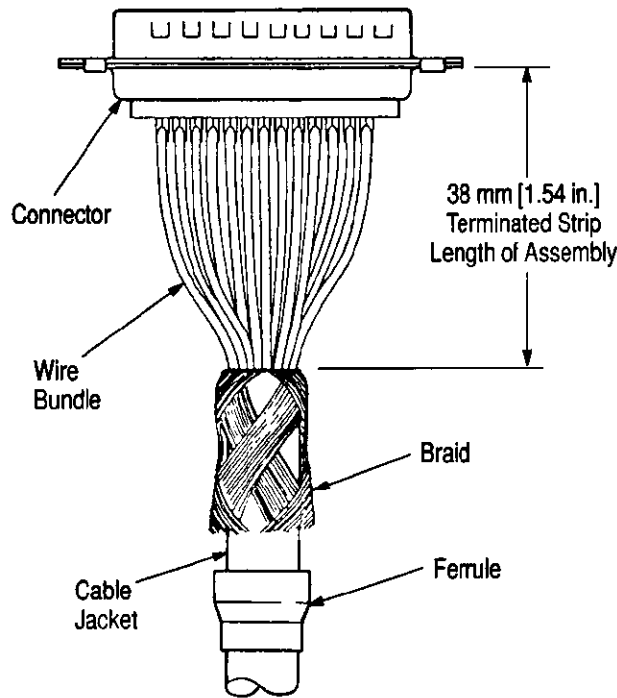

Figure 3
1. Measure the terminated length of the assembly as shown in Figure 3.
The length must be as indicated in Figure 3 and must conform to the configuration as shown in the illustration; otherwise, wires may be pinched between the shields when they are closed. The proper length and configuration may be achieved by twisting (and thereby shortening) the wire bundle after solder termination; however, make certain that no undue stress is placed on the soldered contacts during the procedure. The MAXIMUM amount that the bundle may be twisted to achieve the desired length is 90°.